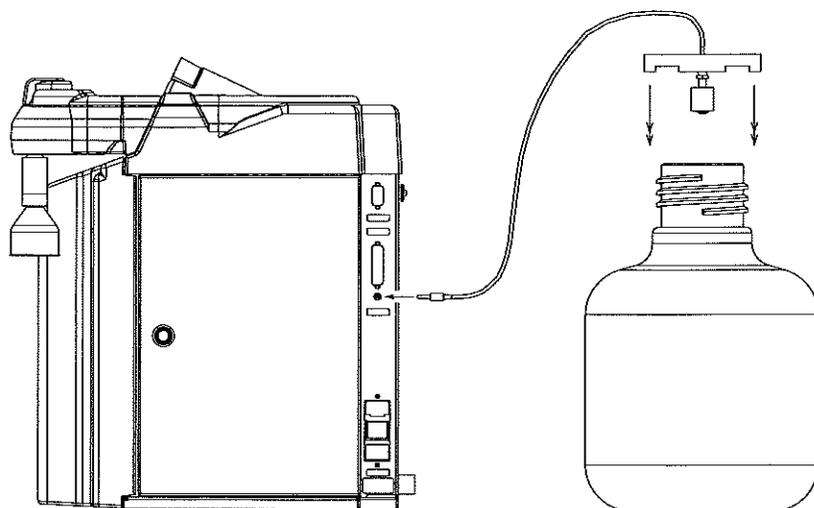

Figure 16: AY1367X1 Dispense Overflow Cutoff Float
1. Prior to initialing an automatic dispense (time or volumetric), plug AY1367X1 into connector on back right side of NANOpure Diamond. See Figure 16.